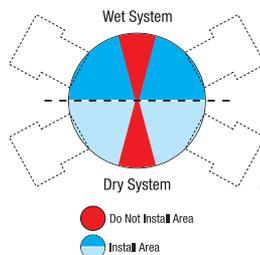

Fig. 1
For wet systems refer to Fig. 1 above the dashed line and position the CORRinSITE plug at the top of the pipe at a 45° angle between 1 and 3 or 9 and 11 o'clock.
For dry systems refer to Fig. 1 below the dashed line and position the CORRinSITE plug at the bottom of the pipe at a 45° angle between 3 and 5 or 7 and 9 o'clock.
2. Install the M7700 with appropriately sized couplings. Before tightening couplings orient the monitor's plug port to the desired position (Fig. 1). Then, tighten couplings to manufacturer's specifications.